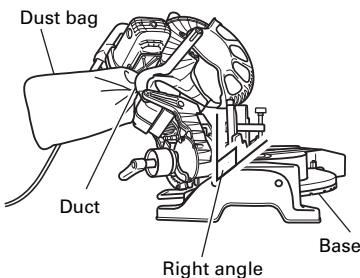

Fig. 43
- (2) During bevel and compound cutting, attach the dust bag at a right angle to the base surface as shown in Fig. 43.